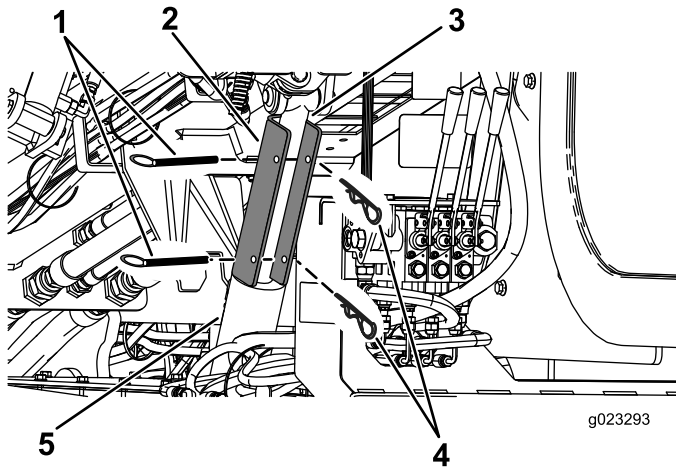

Figure 102
4. Position the cylinder lock over the cylinder rod (Figure 102).
5. Secure the cylinder lock with the cotter pin and clevis pin (Figure 102).
4. Remove the cotter pin and the clevis pin that secure the cylinder lock (Figure 102).